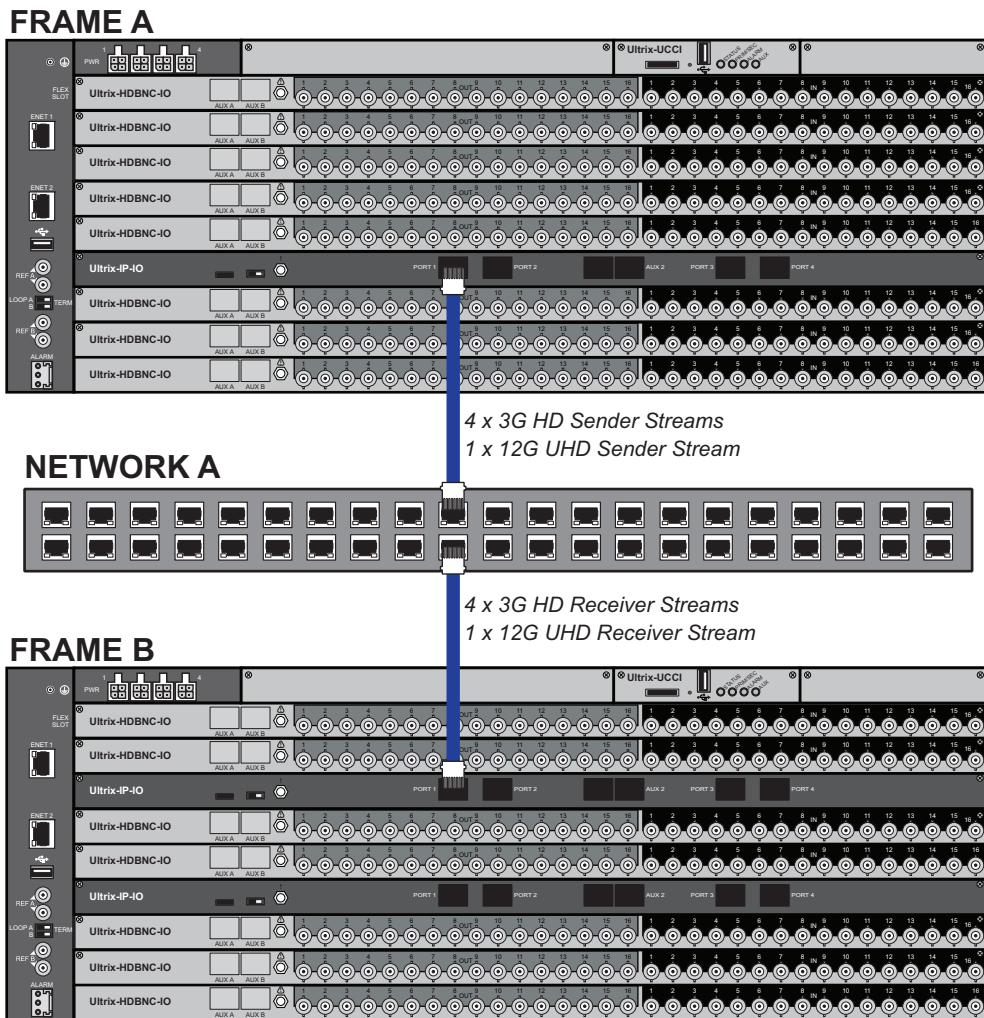

Figure 36 Example of ULTRIX-IP-IO with Multiple Streams with Different Video Formats
**Figure 36** shows two ULTRIX-FR5 routers with one router (Frame A) transmitting four 3G HD video streams and one 12G UHD video stream on ENET 1. The second router (Frame B) receives four 3G HD streams and one 12G UHD video stream on ENET 1.